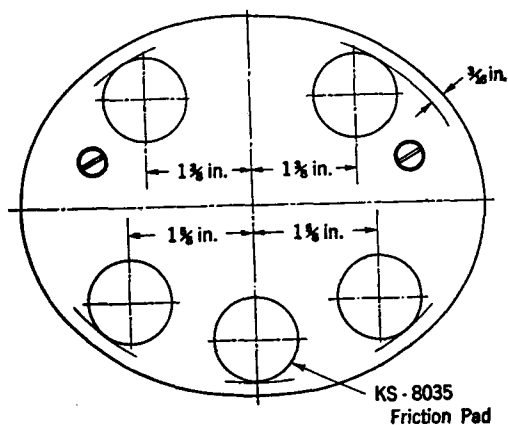

Fig. 3—D Type Hand Set Mounting.
5.03 The approximate locations on the hand set mounting base at which the friction pads per KS-8035 shall be attached are indicated in Figs. 3, 4 and 5.